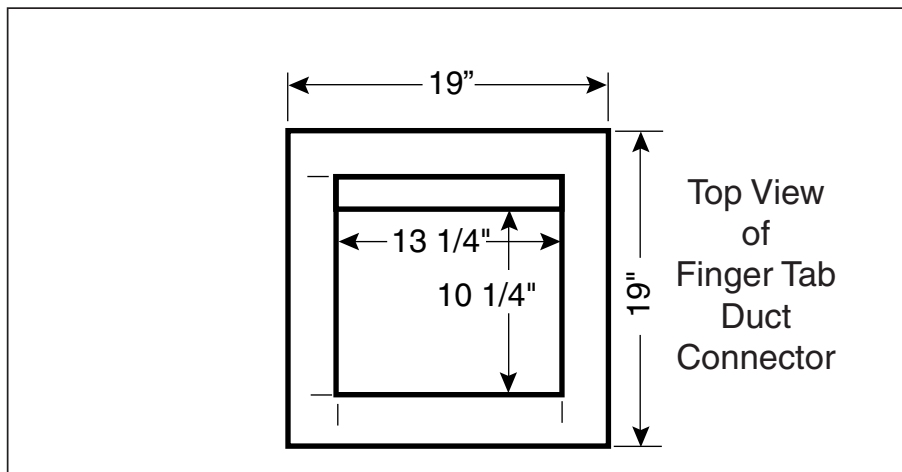

Figure 10.
b. Locate center of the floor opening, measured 10" from the rear wall, and mark cut-out measuring approximately 14-1/2" by 14-1/2" ( $\pm 1"$ ) for model duct connector used (refer to Figures 10 & 11).